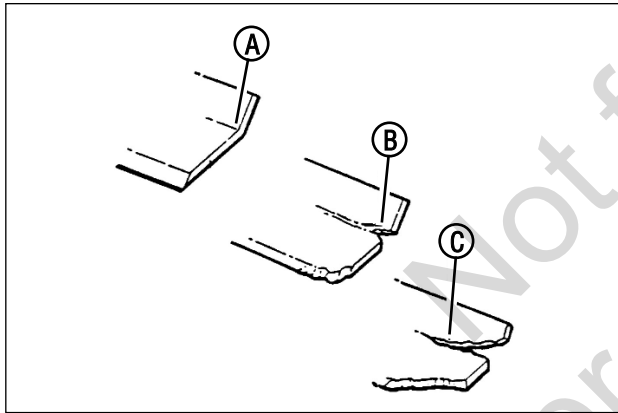

Figure 15: Mower blade wear limits
1. Inspect the blade (Figure 15) frequently for signs of excessive wear or damage:
- (A) New blade
- (B) Wear limit (notch starts)
- (C) Dangerous condition! Do not use on the mower!